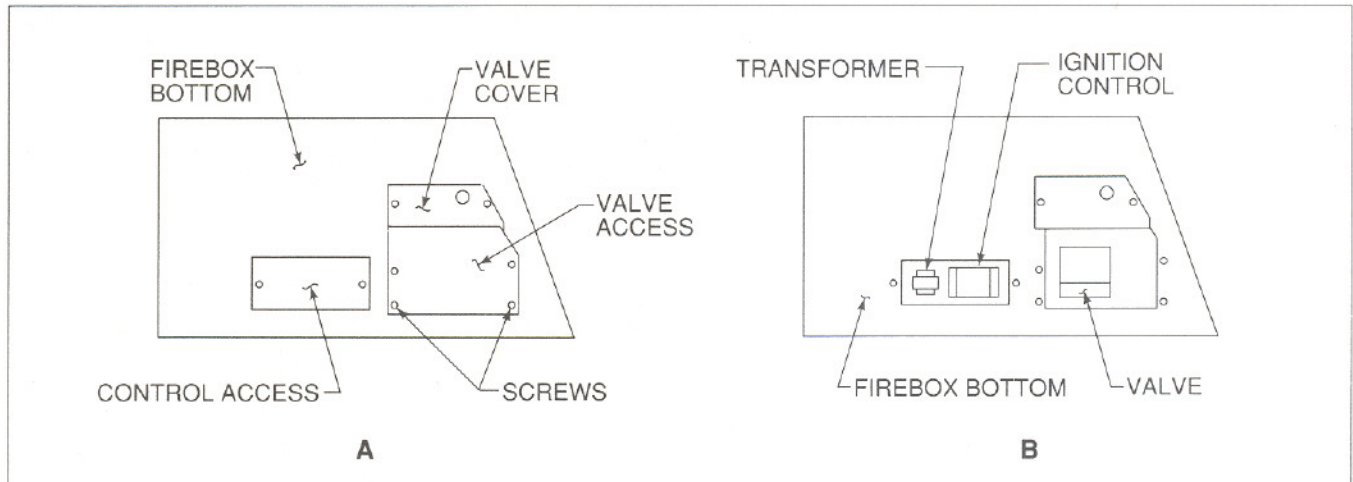
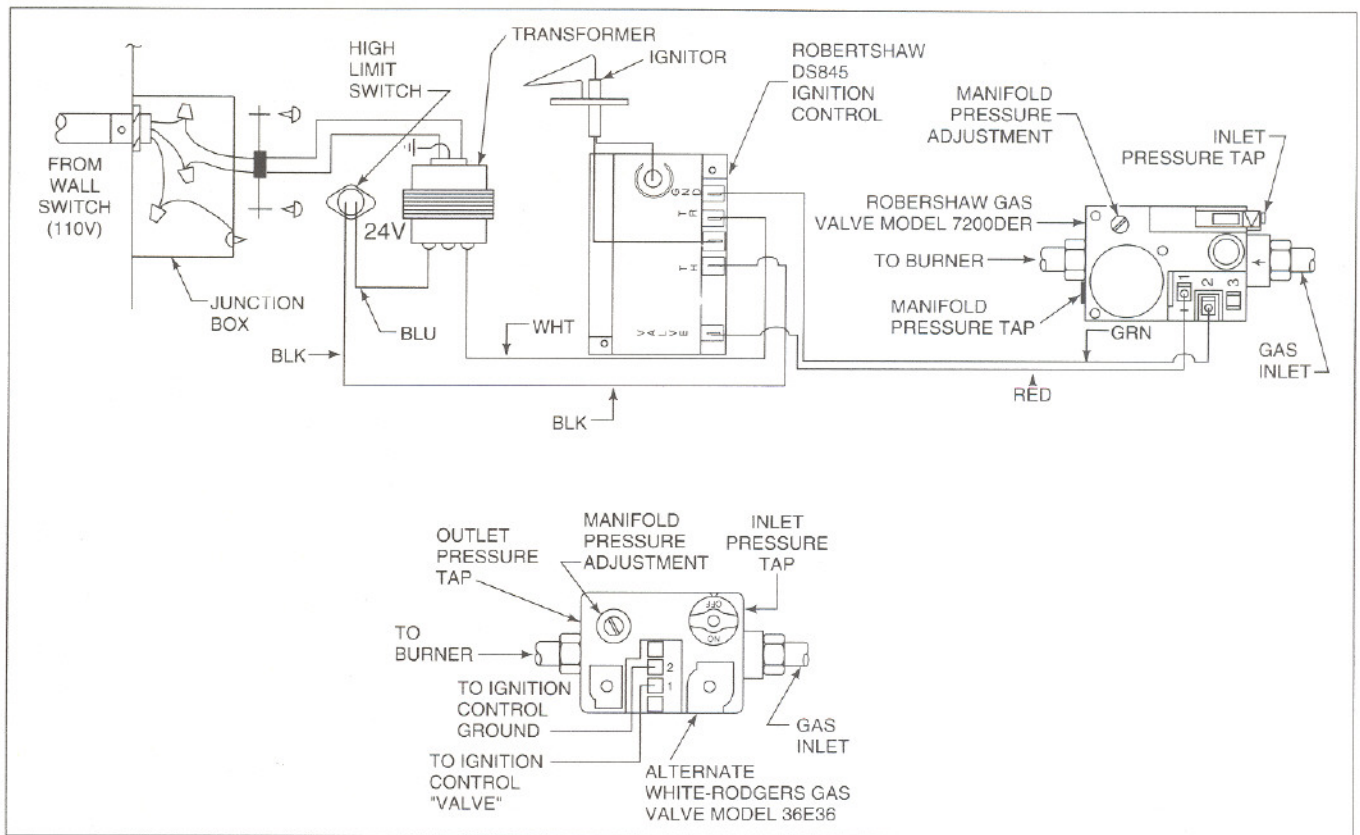

Figure 3
Figure 4
Connect the gas line to the appliance valve inlet, using 3/8" pipe. Check for gas leaks with a soap and water solution. See Figure 3 for the location of gas valve. It is recommended to use a flexible gas connector to ease in installation. Run the 3/8" pipe approximately 3" into the appliance. Connect a 12" to 18" flexible connector to the pipe and valve. To ease in making connections, remove the logs, grate, access cover and valve cover assembly. Make all gas connections and wall switch connections. Follow the wiring diagram in Figure 4. Return all components to their correct position.
Finishing the Appliance. The wall switch hook-up should be installed in a convenient location. A wall switch is provided with the appliance. The connection must be made as shown in the wiring diagram, Figure 4. When finishing the face of the appliance, combustible material may be brought up to the sides of the appliance, but must never overlap onto the black metal. The black metal may be covered with non-combustible material only. **NOTE: You cannot cover any of the air slots in the appliance, as this may create a fire hazard.** If a mantel is to be used, a minimum of 42" from the base of the appliance must be maintained.
B. No ground.	Check that wiring is grounded as shown in Figure 4.